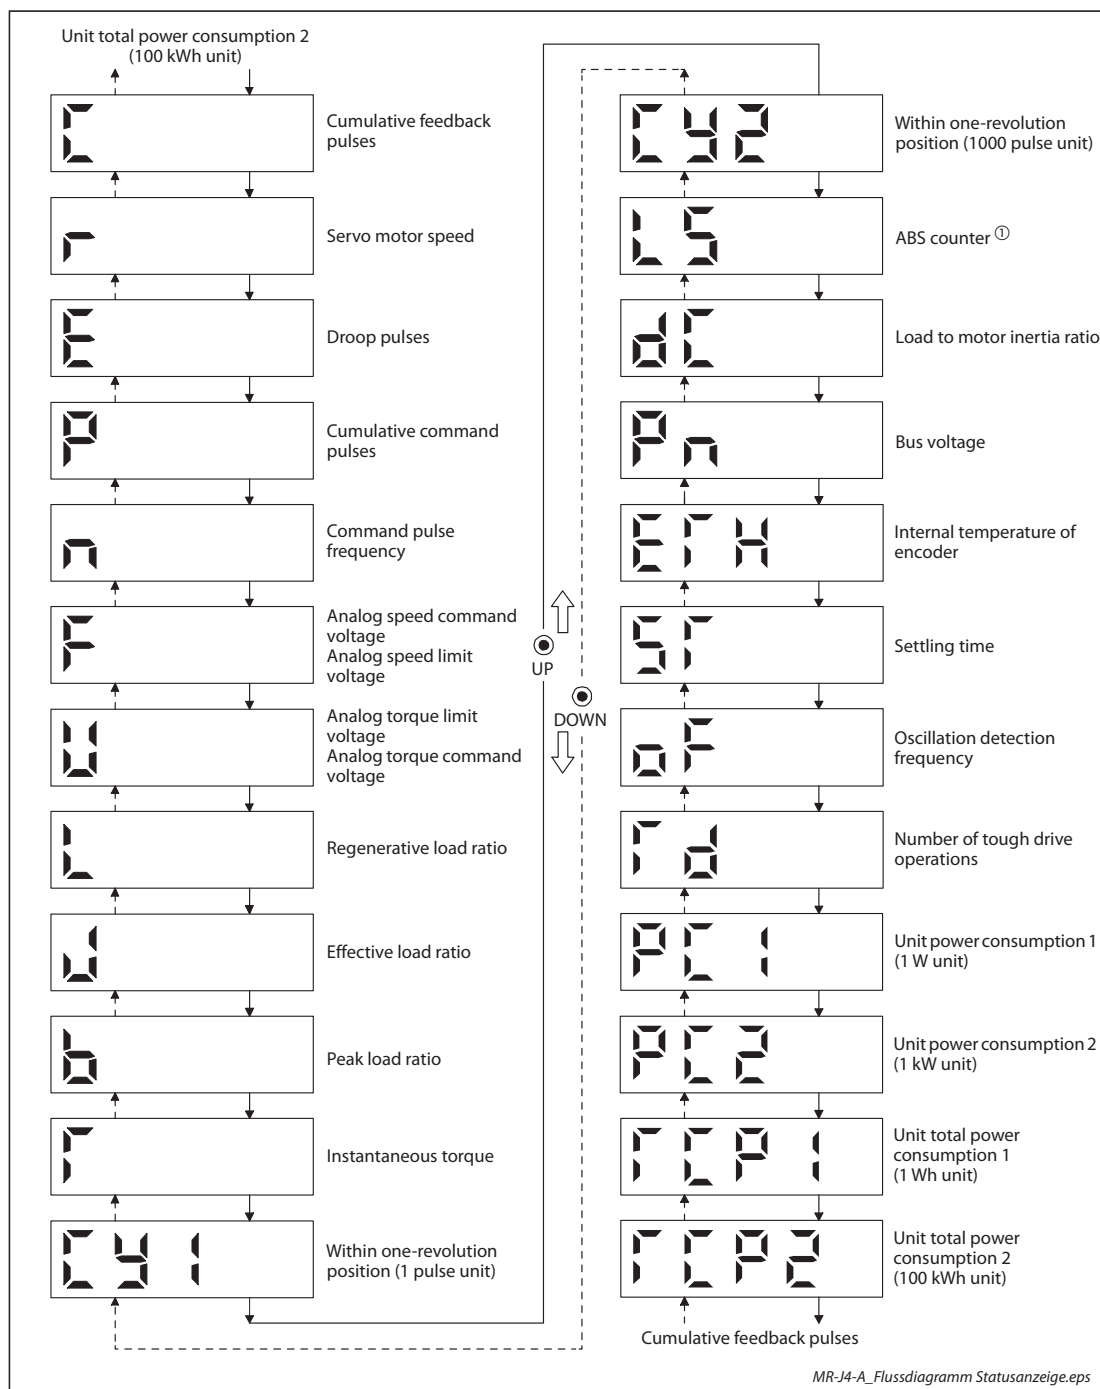

Fig. 5-2: MR-JE-A – Display transition of status display (standard control mode)
Servo status display. [] appears at power-on. ①	Fig. 5-2